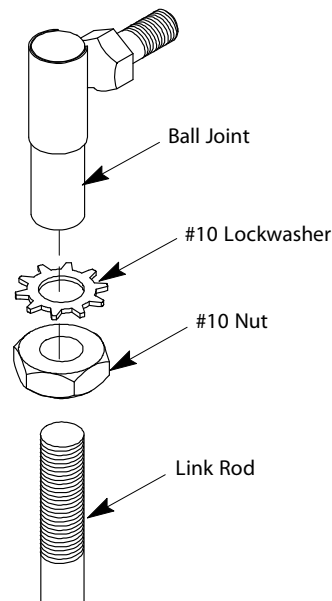

Figure 5 - Attach Link Rods to Ball Joints
6. Use #10 nuts and lockwashers to attach the short and long link rods to the ball joints. See Figure 5.